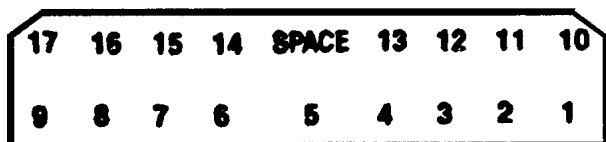

Figure 5 Harness Connector
The instrument cluster is connected to the vehicle by two vehicle harness connectors on the back of the cluster. The natural connector is on the left (driver's side) and the green connector is on the right. Each harness connector has seventeen (17) pins numbered right to left. The bottom row contains pins 1 through 9 and the top row, pins 10 through 17. There is a space between pins 13 and 14 (Figure 5).